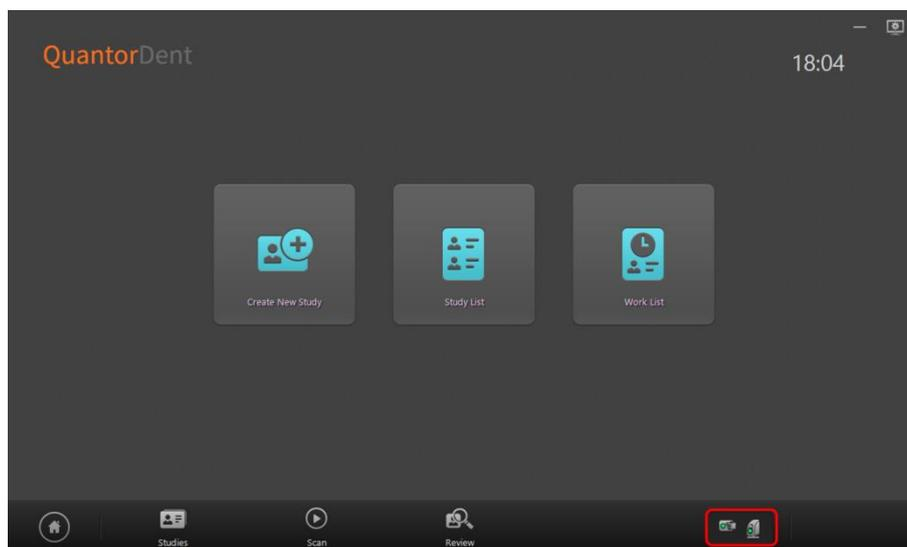

Figure 6.22 Multiple Scanners Found on the Network and Fire ID Connected
4. Run the QuantorDent program to display the Fire ID indicator and scanner indicator in green as shown in Figure 6.22. In this case, the bottom part of the scanner indicator is colored gray, which means multiple scanners are found on the network.